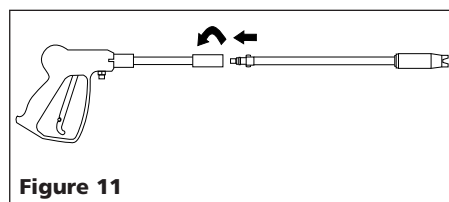

Figure 11
3. Insert lance into the gun and turn clockwise to positive stop as shown in Figure 11.